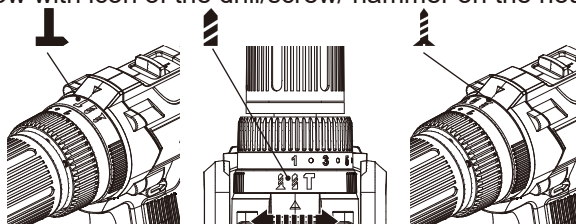

Fig. 7
Three working modes are available on this tool: drilling, screw driving and impact drilling. To select any of the three modes, rotate the function selection ring (14), to align the arrow with icon of the drill/screw/ hammer on the housing. (Fig. 7).